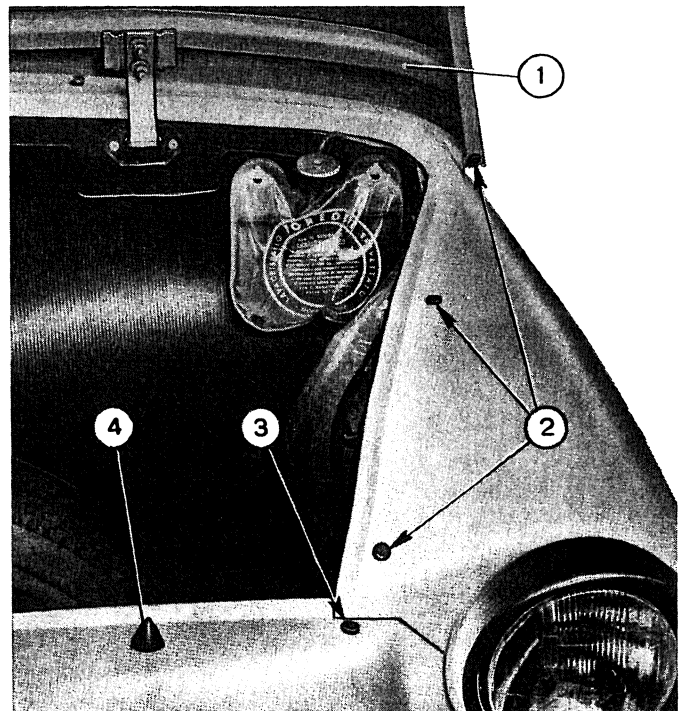

Fig. 497 - Front compartment lid bumper pins, « Sedan ».
Around the edges of front compartment on which the lid rests when closed, are fitted six rubber bumper pins (fig. 497) so located: two at front (3) and four on the sides (2). Two bumper pins, too, are placed laterally under the lid (2).